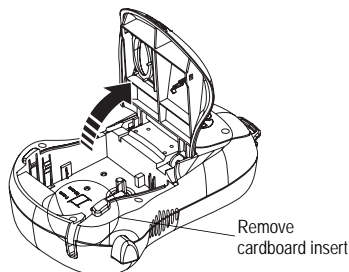

Figure 3
1. Lift the label cassette cover to open the label compartment. See Figure 3.
⚠ The first time you use the labelmaker, remove the protective cardboard insert from between the print head and pinch roller. See Figure 3.